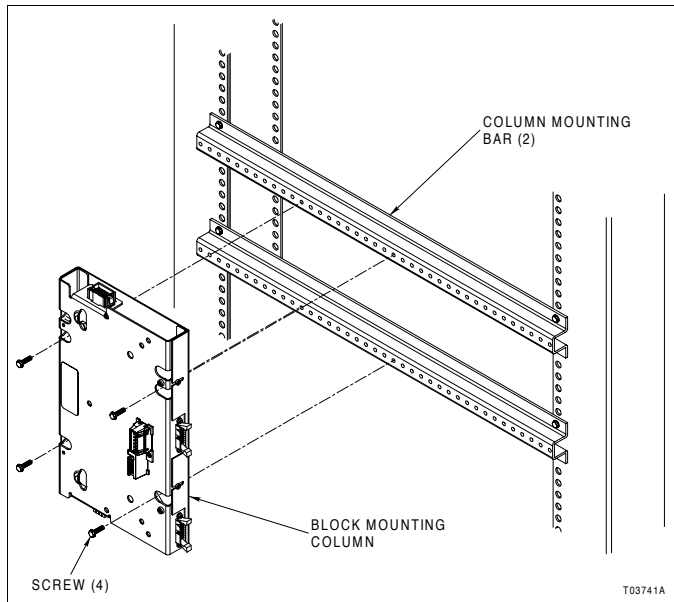

Figure PR2-2. Single Column Attachment
- 2. Align then attach the block mounting column to the column mounting bars using four M5 screws (Fig. PR2-2). Make sure the column is lined up with other installed columns so that the block cooling vents will line up.